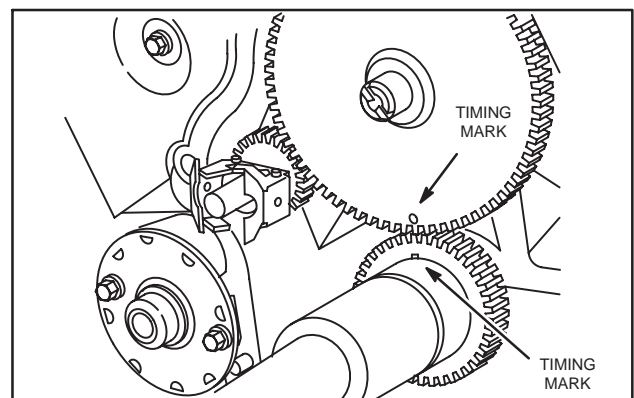

Fig. 5 – Installing Camshaft
2. Align timing marks on cam shaft and crankshaft gear and install cam shaft, Fig. 5. Lubricate thrust washer, governor gear and governor cup and assemble to shaft.